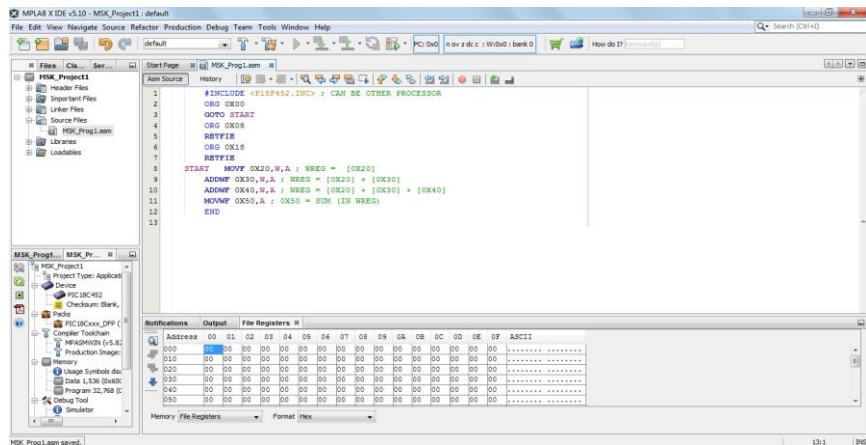

Fig 4.16 Editor Window for ASM file
13. The ASM Editor window appears as shown in Fig 4.16. Enter you assembly language program to simulate and save it.